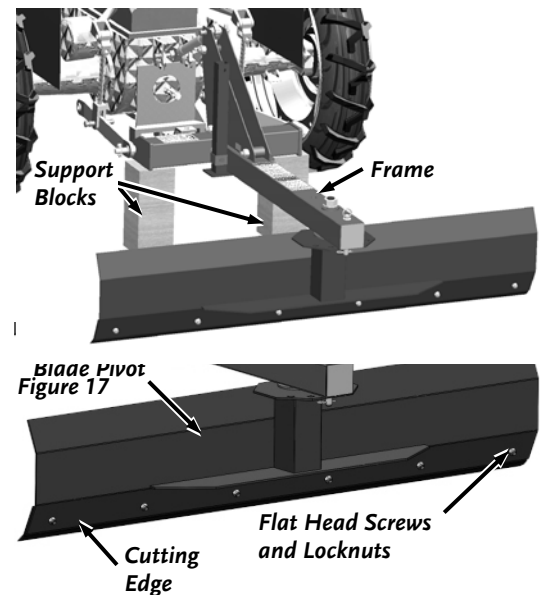

Figure 18
2. Remove the six Flat Head Screws and Locknuts that hold the Cutting Edge to the Blade Pivot using an 8mm Allen Wrench and 19mm Wrench (**Figure 18**).